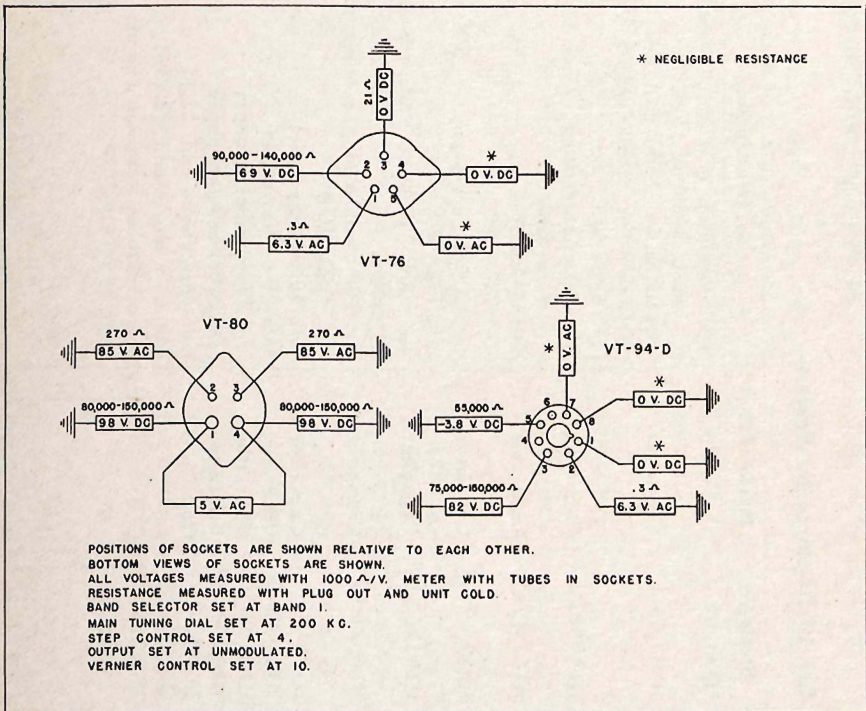

Fig. 7 — RESISTANCE AND VOLTAGE MEASUREMENTS FROM TUBE SOCKETS TO CHASSIS
**18. Voltage and Resistance Readings.**—See figure 7.